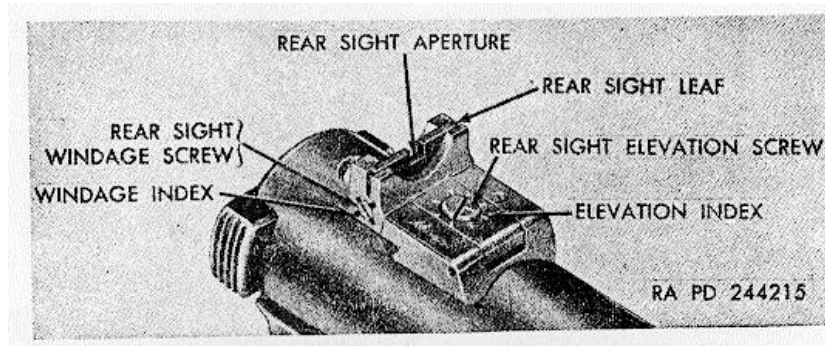

Figure 20. Micro rear sight (Ruger).
- (1) *General.* The micro rear sight fits into a dovetail slot at the rear of the receiver. The micro rear sight hinge (fig. 21) is pivoted at the front of the rear sight base. The hinge is held at a set elevation by two rear sight hinge springs and a hinge steadying spring. The micro rear sight leaf (fig. 20) slides in a slot in the hinge. It is spring loaded and can be moved by the rear sight
- (a) The rear sight elevation screw (fig. 20) is located at the rear of the receiver in front of the micro sight leaf. The serrated head of the screw rests against a spring-loaded ball to give positive positioning. Spring loading of the click ball is obtained from the micro rear sight hinge springs (fig. 21) which are eccentric to the elevation screw.
- (b) The micro rear sight hinge (fig. 21) has elevation index (fig. 20) marks engraved at 45-degree intervals corresponding to each click. Turning the elevation screw clockwise lowers the impact of the bullet 1/2 inch at a 15-yard range.
- (a) The rear sight windage screw (fig. 20) is located at the right side of the receiver under the micro sight leaf. The screw has a cup end which rests against a cone shape on the leaf which makes the click sounds. The micro sight leaf is spring loaded to provide for movement of the leaf. This spring also acts on the click cone.
- (b) The micro rear sight base has windage index marks (fig. 20) engraved at 90-degree intervals corresponding to one click. Turning the windage screw clockwise, one click, moves the impact of the bullet 1/2 inch to the left at a 15-yard range.